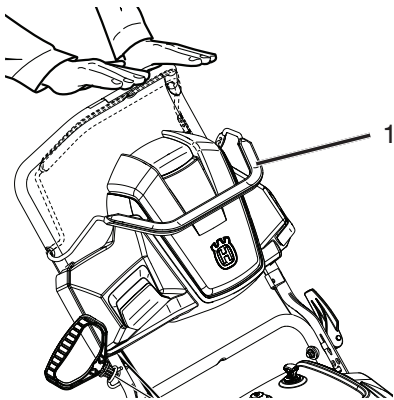

Figure 15
1. To disengage the auger blades, release the control bar (Figure 15).